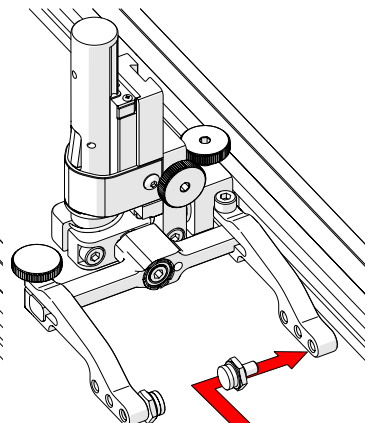

Fig. 123 - Place buttons
3. Position the pivot buttons where necessary. When a narrow scanning footprint is required, use the pivot button holes closest to the yoke (*Fig. 123*).